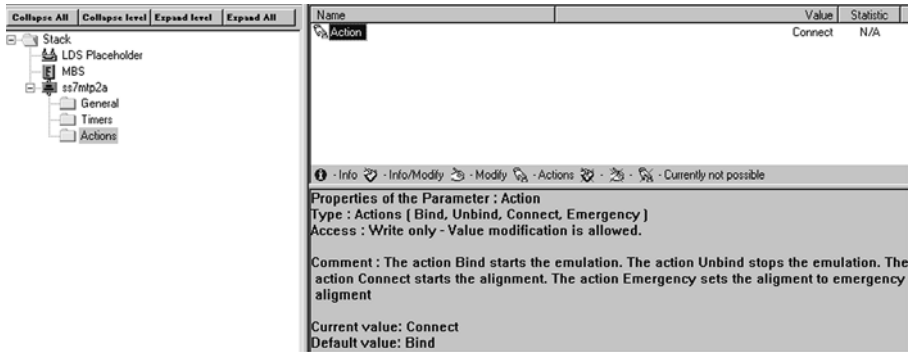

Figure 5: Starting the emulation using the *Connect* action
- b. Start the MTP layer 2 emulation of the Test Center branch by selecting *Connect* in the *Actions* menu (see figure 5).